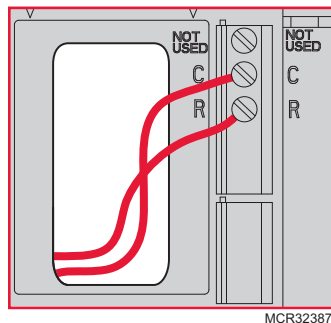

Fig. 13. Inserting wires in thermostat terminal block.
1. Wire to C and R terminals of the EIM or to a separate 24 volt transformer (not provided). See Fig. 13.
1. Wire to C and R terminals of the TrueZONE panel or to a separate 24 volt transformer (not provided). See Fig. 13.